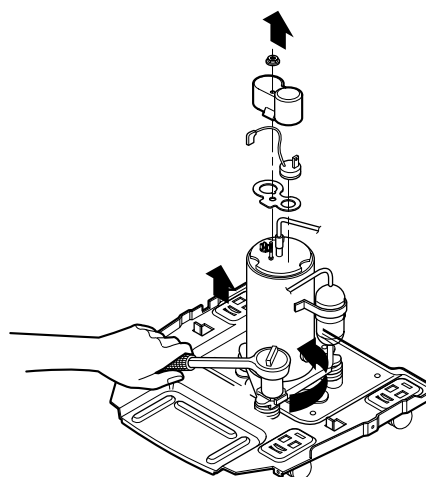

Figure 21
3. Remove the nuts and washers which fasten the compressor. (See Figure 21)
4. Remove the compressor from the base pan. (See Figure 21)